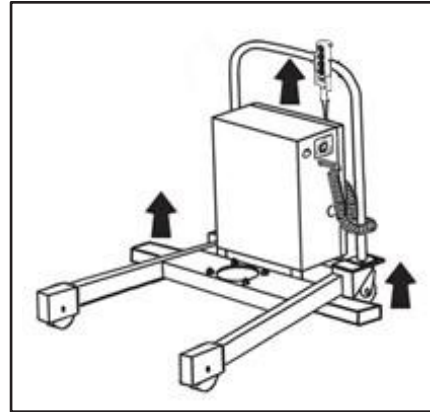

Figure 75
2. With the LifTILTruk lifted and tilting forward, put a 4" x 4" or 6" x 6" block of wood underneath the frame (Figure 75). The block must be long enough to support BOTH LEGS OF THE FRAME.